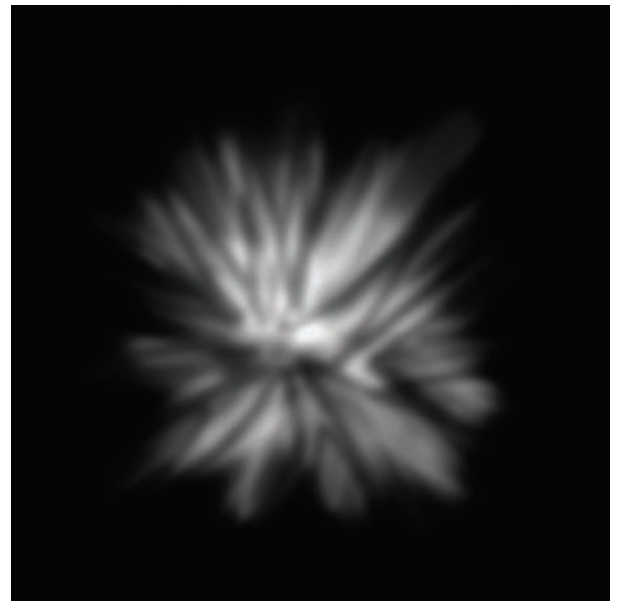

Figure 8.31
8. Create a third layer above the black layer. Choose a white color and a soft brush and paint a radiant glow outward from the approximate center of the image. It does not need to be perfect or even all that pretty. Paint it so that you get a nice radial pattern of white that is similar to Figure 8.31.